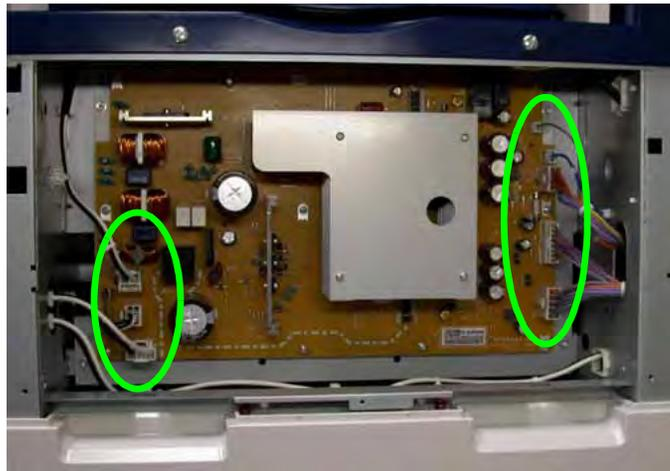

Figure 2 PJ's
3. Disconnect the Main LVPS connector (8) (Figure 2).